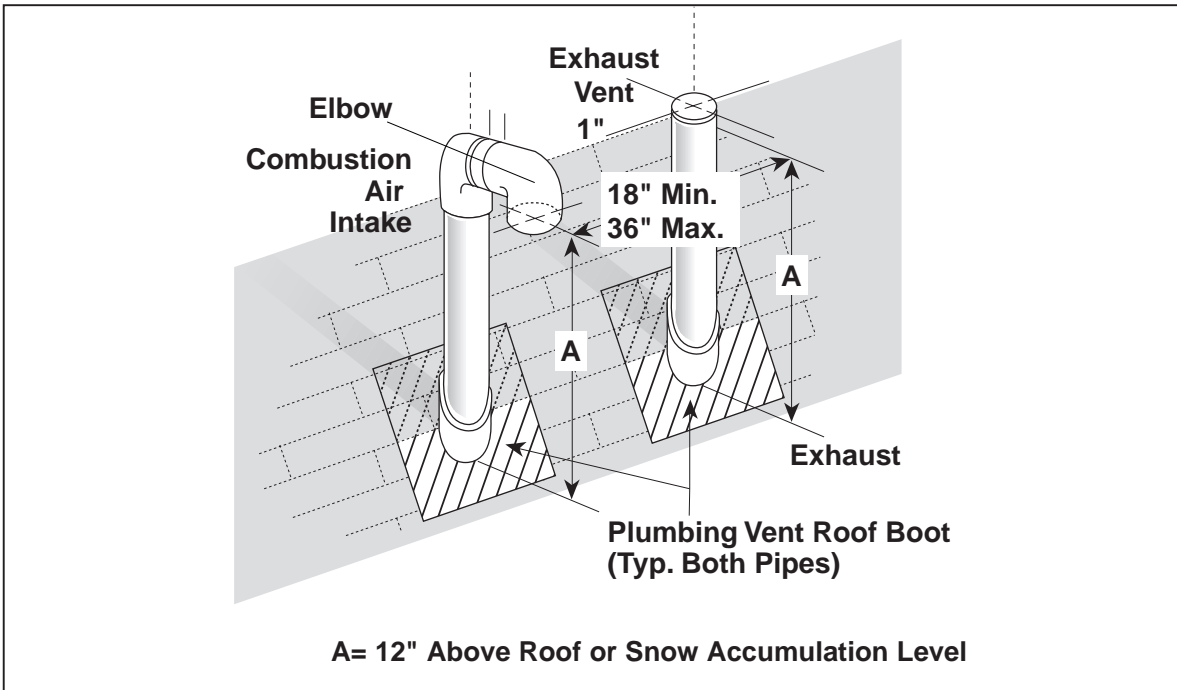

Figure 20. Vertical Vent Termination
- c. The termination clearances shown in Figure 20 are maintained.
Figure 20 shows the proper installation and clearances for vertical vent termination. The roof penetration must be properly flashed and waterproofed with a plumbing roof boot or equivalent flashing. Termination spacing requirements from the roof and from each other must be per Figure 20.